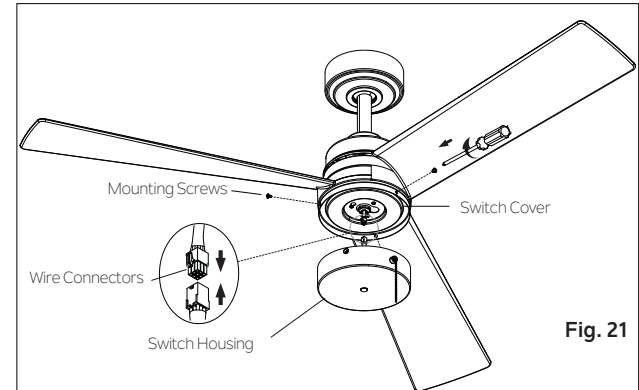

Fig. 21
(Fig.21)
Step 3. Carefully push all the wires into the switch housing. Attach the switch housing to the switch cover with the mounting screws that were removed in Step 1. Make sure each screw is tight. **(Fig. 21)**